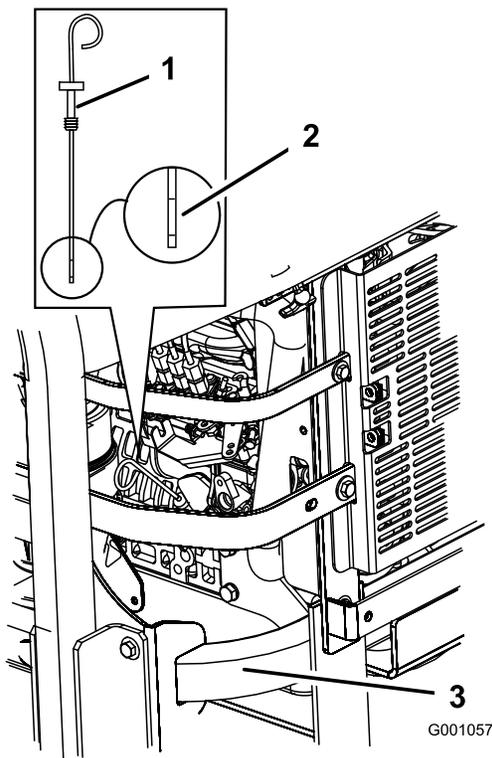

Figure 39
3. Clean around the oil dipstick (Figure 39) so dirt cannot fall into the filler hole and damage the engine.
4. Pull the oil dipstick out and wipe the metal end clean (Figure 39).
5. Slide the oil dipstick fully into the filler tube. Pull the dipstick out and look at the metal end (Figure 39). If the oil level is low, slowly pour only enough oil into the fill hole to raise the level to the full mark.